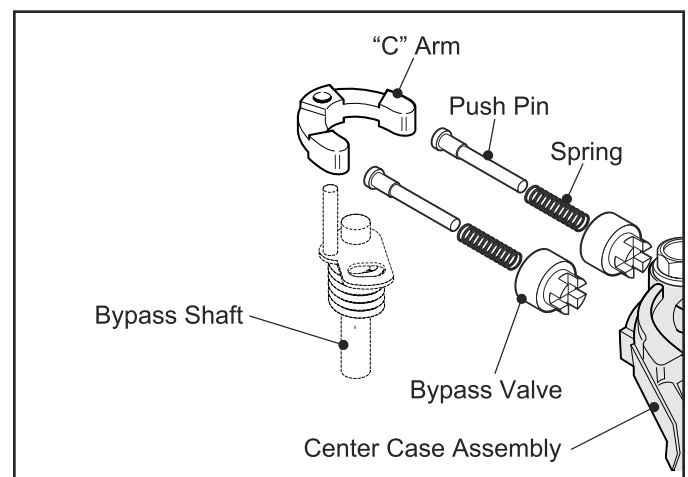

Fig. 37, Actuating Valve Assembly
5. Install Push Pins, Springs, and Bypass Valves in Center Case; then, while depressing Push Pin Assemblies, place "C" Arm onto Bypass Shaft. (Fig. 37)